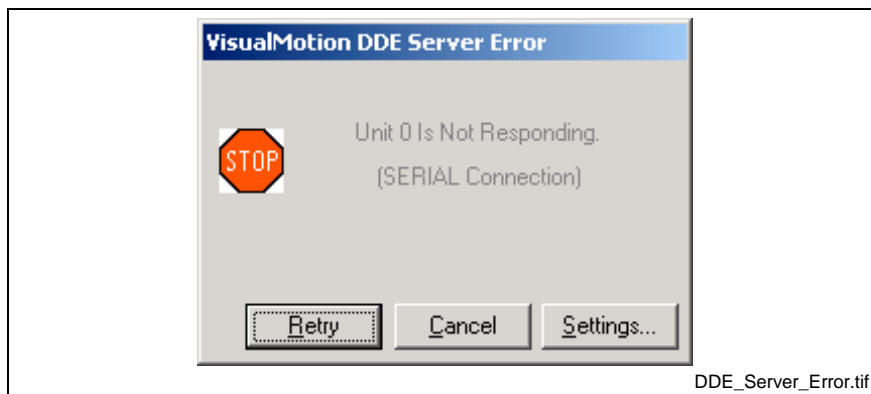
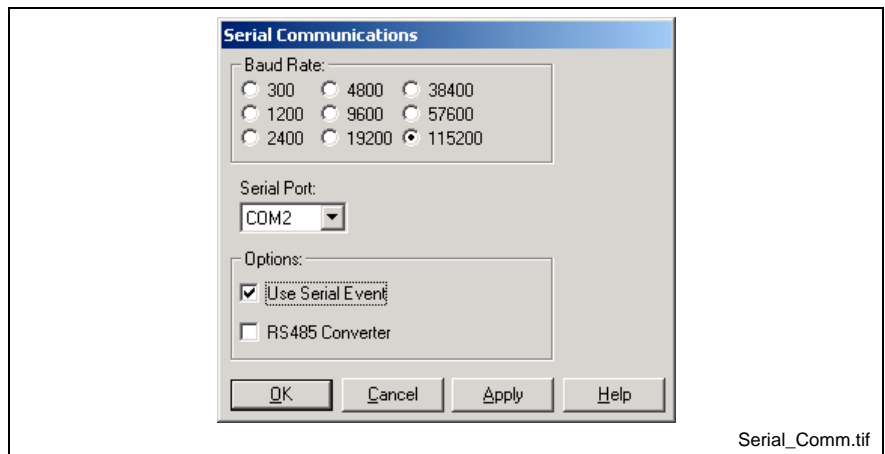

Fig. 2-2: VisualMotion DDE Server Error
Fig. 2-3: Serial Communications
3. Selecting *Settings* for the screen in Fig. 2-2 will open the dialog box in Fig. 2-3. Make sure that the baud rate setting in the Serial Communication window matches the PPC-R's setting. Also, verify that the *Serial Port* number matches that of the port used by the serial cable. Checking *Use Serial Event* improves the communication throughput of the PC hardware.